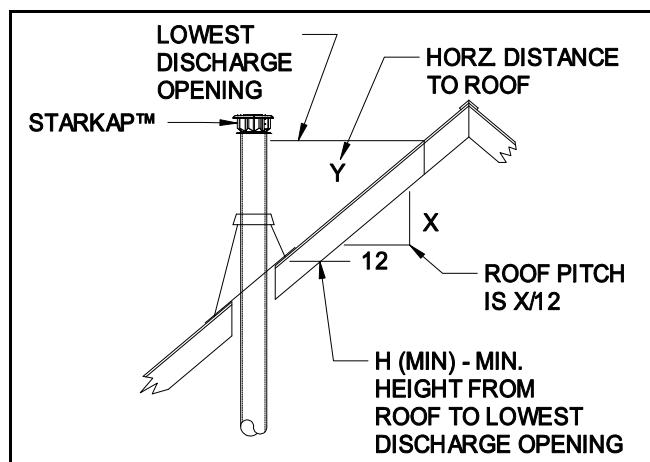

Figure 1
1. Install and secure the vertical vent, gas vent or metal vent according to manufacturer's instructions or in accordance with NFPA 54 National Fuel Gas code or CSA-B149.1 the National Building Code of Canada and the Installation Code for Gas Burning Equipment or applicable local codes. The termination of the vertical vent or metal vent MUST be installed in accordance with the height and roof pitch table (See Figure 1 or Table 1 or refer to NFPA 54 or CSA-B149.1 for requirements). These minimum heights may be used if the vertical gas vent is not less than 8 feet from any vertical wall. For other installations, the termination shall be not less than 2 feet above the highest point where the vertical vent passes through the roof and at least 2 feet higher than any portion of a building within 10 feet.